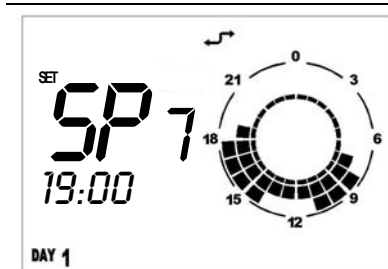

Figure 6 – Daily set point.
3. In the lower left-hand corner of the display, SP n will appear where n is the number of daily set points (See figure 6).
8. The set time and temperature level will be graphically shown on the clock of the display (see Figure 6).
10. In the example of Figure 6 for a Monday, 7 set points were made as specified below:
👉 When programming the daily set points, it is important to ALWAYS program all 24 hours, as in the example in Figure 6. If times are left unprogrammed, the chronothermostat will automatically apply the set data from the previous day for that same time frame (even if it is not shown on the display).